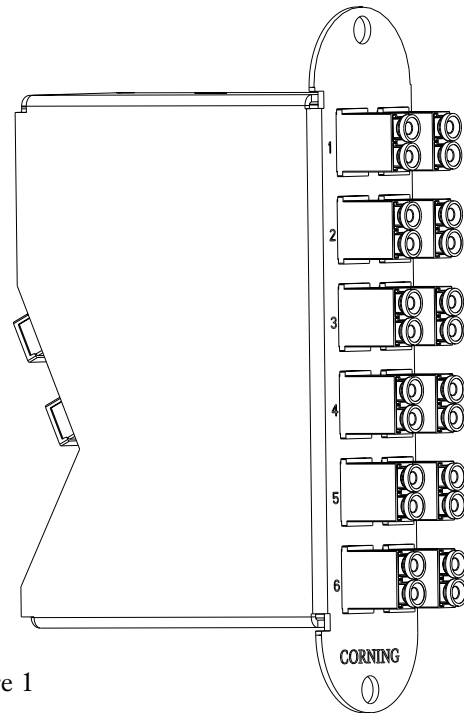

Figure 1
**1.1** This document describes the installation and maintenance of the CCH Plug & Play™ System modules introduced in October 2008 (Figure 1).